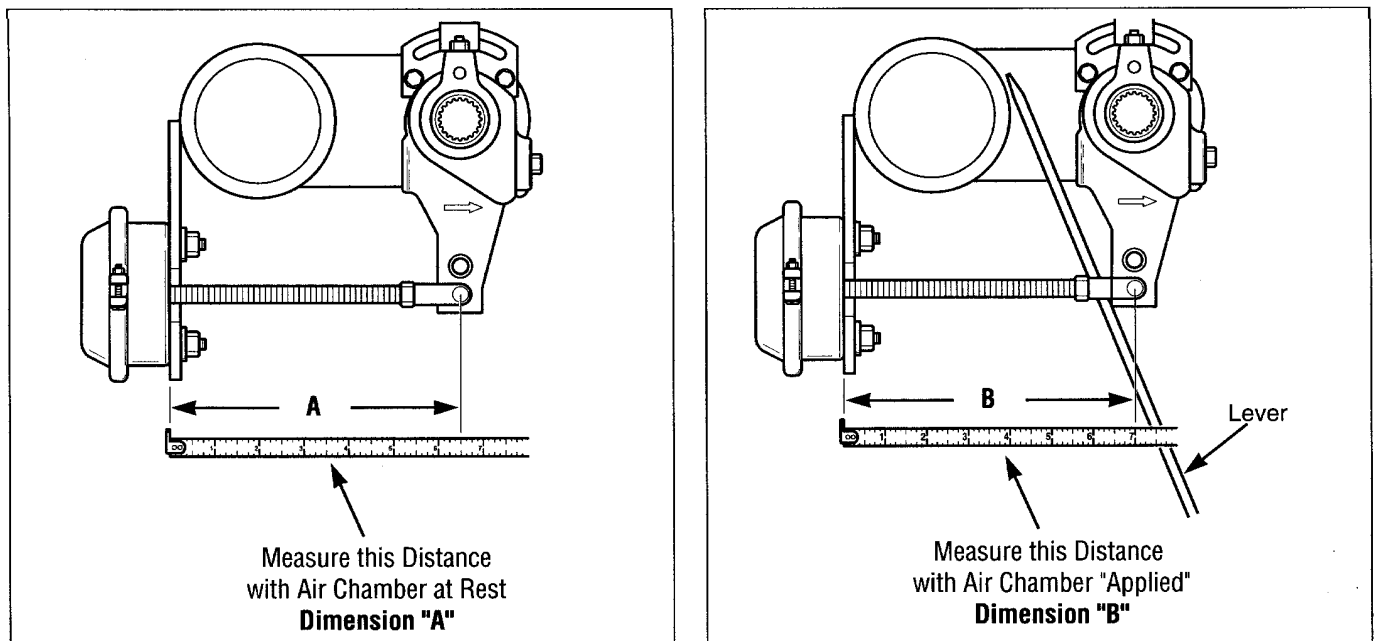

Figure 8-13 Adjust Slack Adjusters
Chock tires and release brakes. Measure the distance (A) with brakes released. See figure 8-13. Use a lever to move slack adjuster until brakes contact the drum and measure the distance (B). Subtract distance A from distance B. The result is the free stroke. Adjust slack adjuster so the free stroke is 3/8 – 5/8 inch on each slack adjuster.